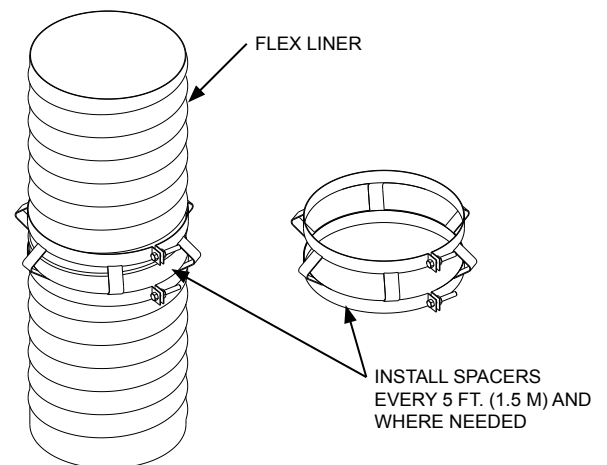

FIG. 8
Step 3: Remove flex liner from packaging and straighten coiled liner. If liner is to be insulated see **Liner Preparation Instructions**. If liner is not to be insulated, **Spacers will need to be installed every 5 foot (1.5 m) of liner to maintain the 1" (25 mm) clearance required between liner and masonry** (See **FIG. 8**).